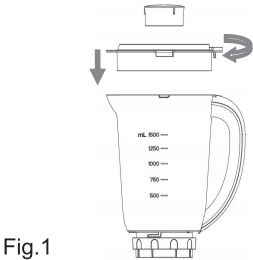

Fig.1
(1) Wash and cut the ingredients and put them in the juice cup. Close the lid and turn the lid clockwise into place Insert the measure cup into the lid and turn it clockwise into place(Fig.1)
(2) Make sure the knob of the main unit is at the "0" position, Align the cup assembly with the lower part of the handle "▼" "